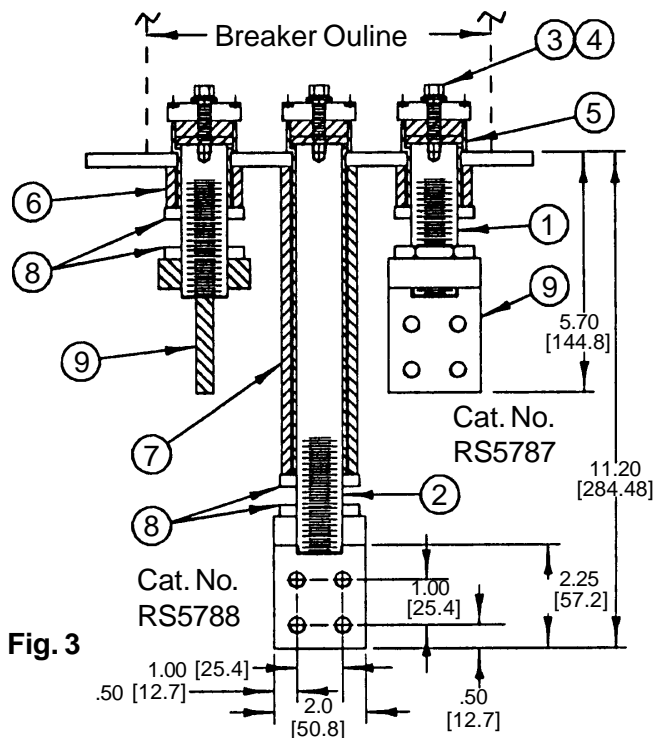

Fig. 3
FINAL ASSEMBLY (Fig. 3)
- Make desired bus bar connections using 5/16 bolts & washers to "T" connectors. (See Fig. 3 for hole pattern of "T" connector).